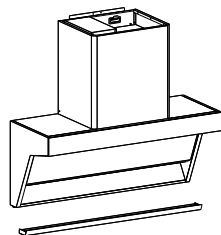

Fig.10
- Hold both ends of the bottom of the Oil collector with your hands, pull it vertically and gently forward, and then you can remove the Oil collector (Fig.10).